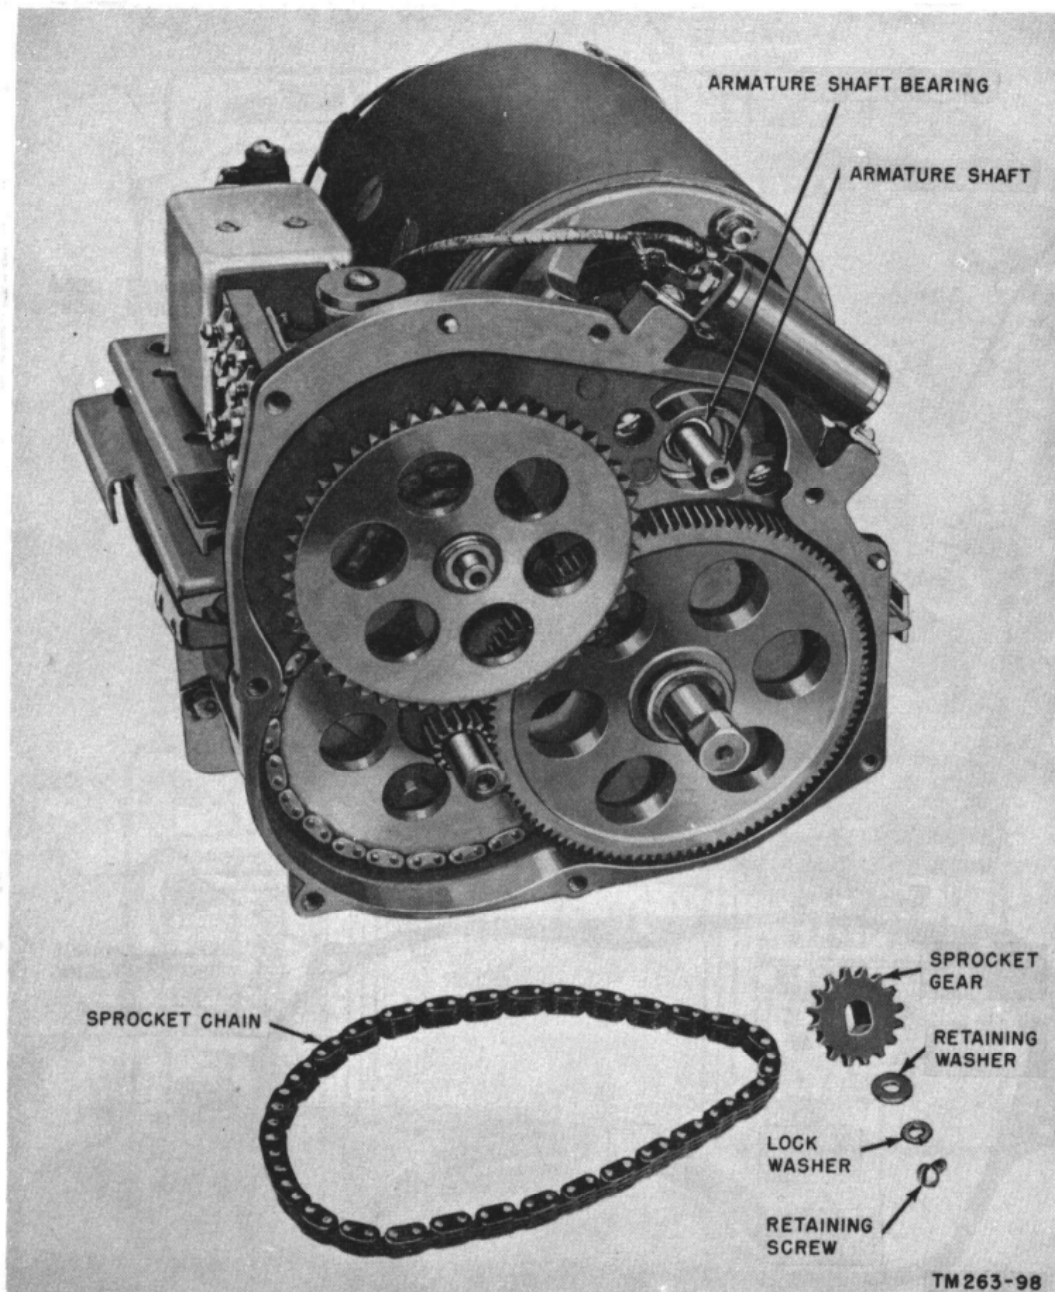

Figure 153. Sprocket gear and chain removed from Generator GN-58-(\*).
- d. The sprocket gear is press-fitted to the shaft. Pry it off gently (fig. 153).